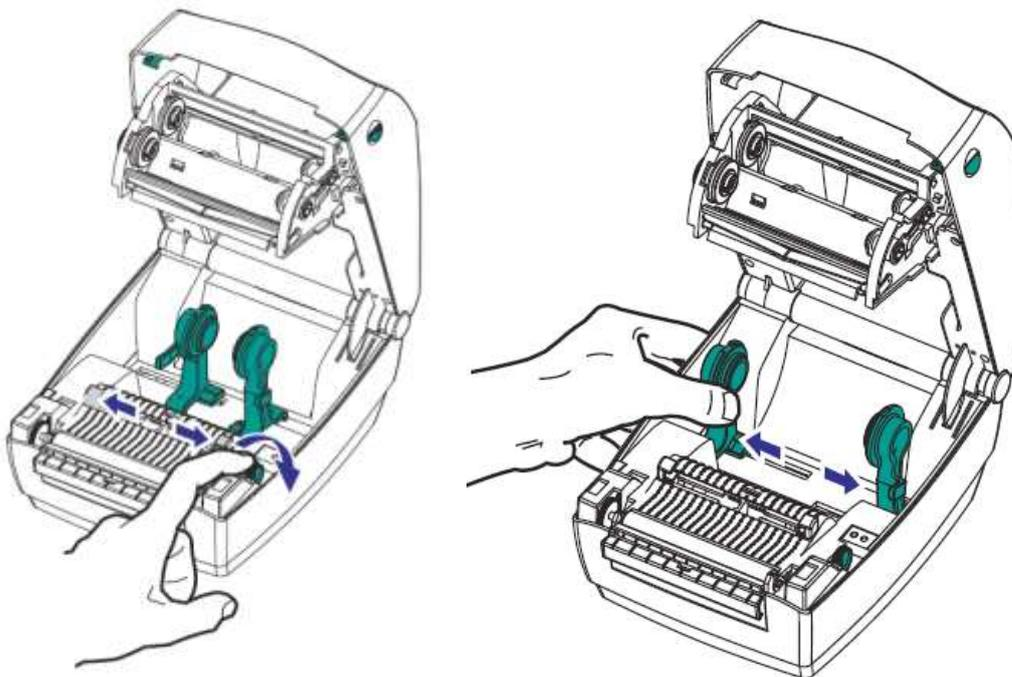

Figure 10: Adjusting the media guides when inserting the media roll
1. Open the printer. Place the media roll as indicated in *Figures 10, 11* and *12*. Place the entire roll in the holders and pull the media under the media guides.